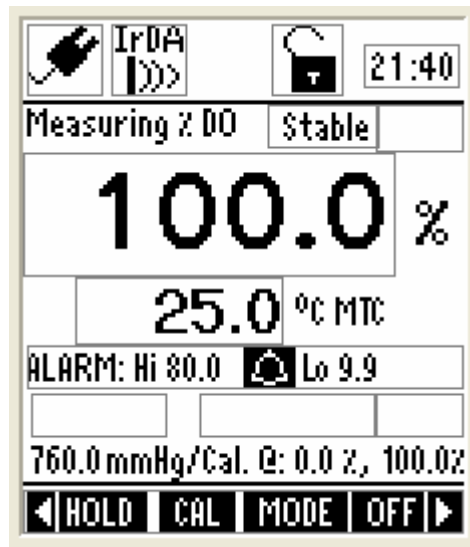

Figure 29 : Saturation measurement Screen
7. Press **ENTER** key to confirm the calibration. The meter automatically calibrates to 0% saturation and returns to the measurement mode [Figure 29].